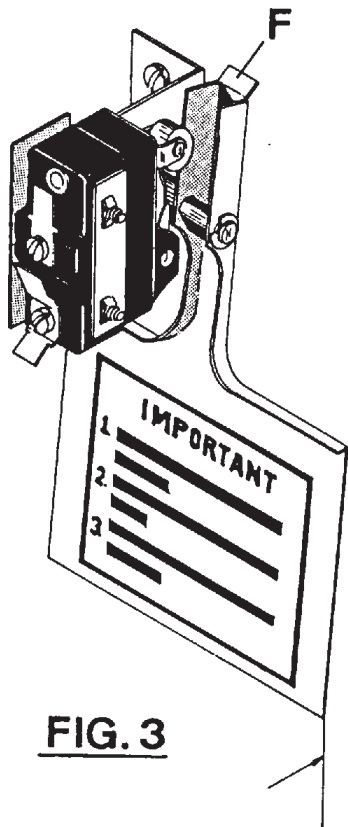

FIG. 3
4. Maximum opening of air switch must be no greater than  $\frac{3}{4}$ " (20 mm) (figure 3). Bend tab "F" in or out to maintain this dimension.